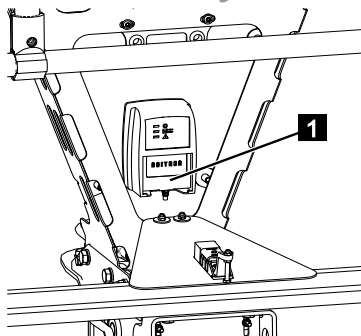

Fig. 218
4. Take a charged battery (Fig.218/1) out of the charger and place a discharged battery in the charger.